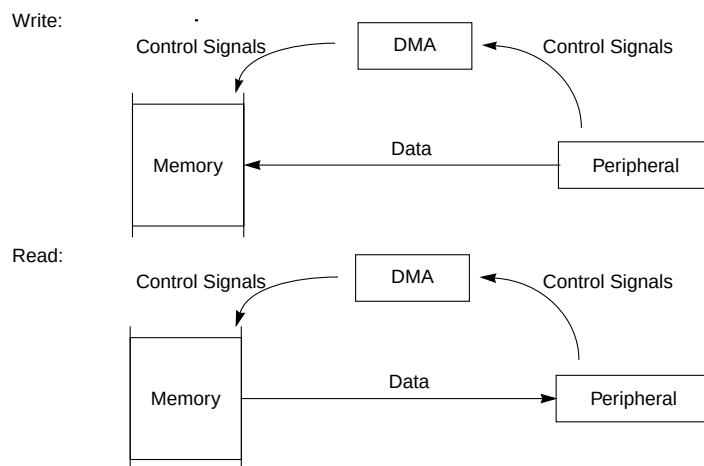

Figure 12-3. Single-Address Transfers
- Single-address transfers—An external device can initiate a single-address transfer by asserting  $\overline{\text{DREQ}}$ . The MCF5307 provides address and control signals for single-address transfers. The external device reads to or writes from the specified address, as Figure 12-3 shows. External logic is required.